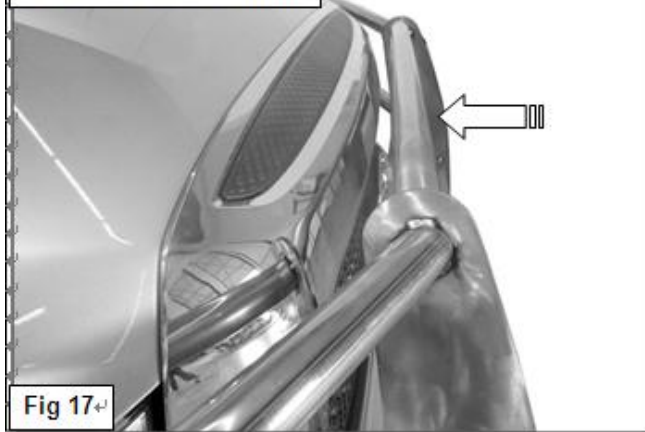

Fig 17
21. Push the Grille Guard back towards the vehicle and fully tighten all hardware, **(Figure 17 & 18)**. Reattach the bottom of the bumper cover with the factory hardware, **(Figure 2)**.
27. Once the hood is completely closed, push the Grille Guard back to its "closed," upright position and tighten all hardware on the Grille Guard, **(Figure 17)**. Push down on the Quick Release lever to tighten, **(Figure 18)**. No tools are required to close the Quick Release levers. It will require some effort to open and close by hand when properly adjusted. Loosen or tighten the 10mm Nylon Lock Nut on the Quick Release bolt to adjust the clamping pressure.